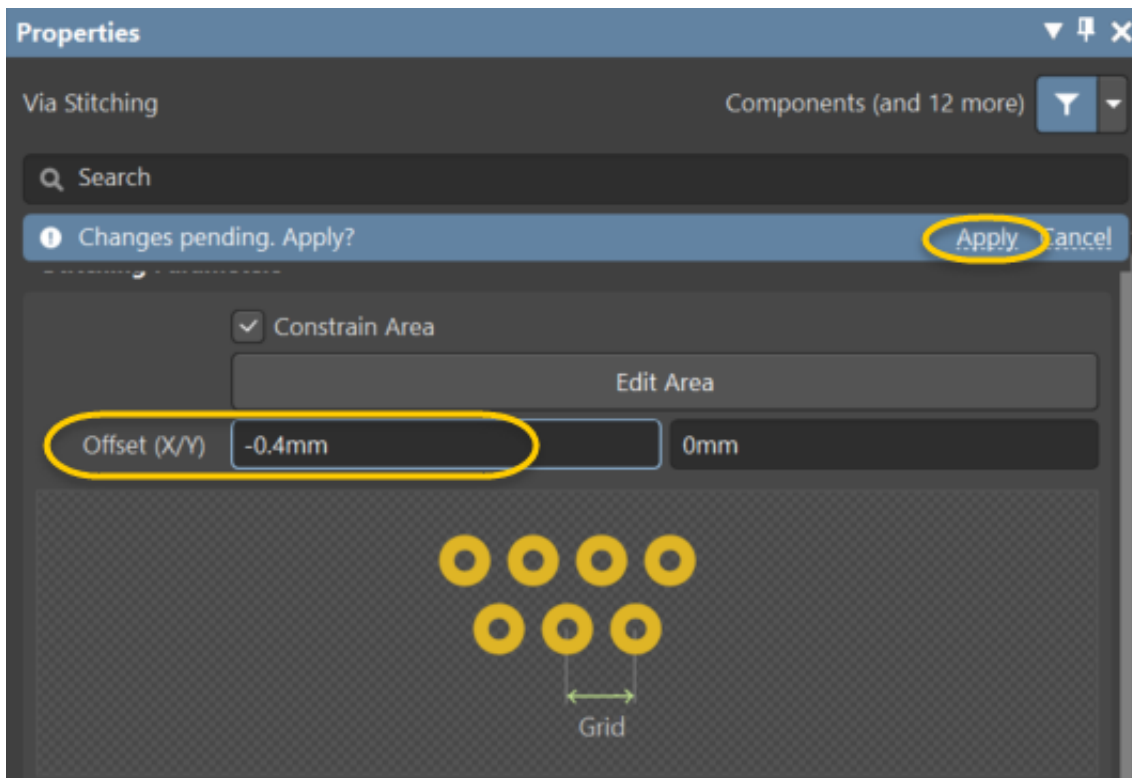

Figure 9. Changing the Via Stitching properties
- c) Once you press **Enter**, you'll be prompted to apply the new changes, Figure 9.